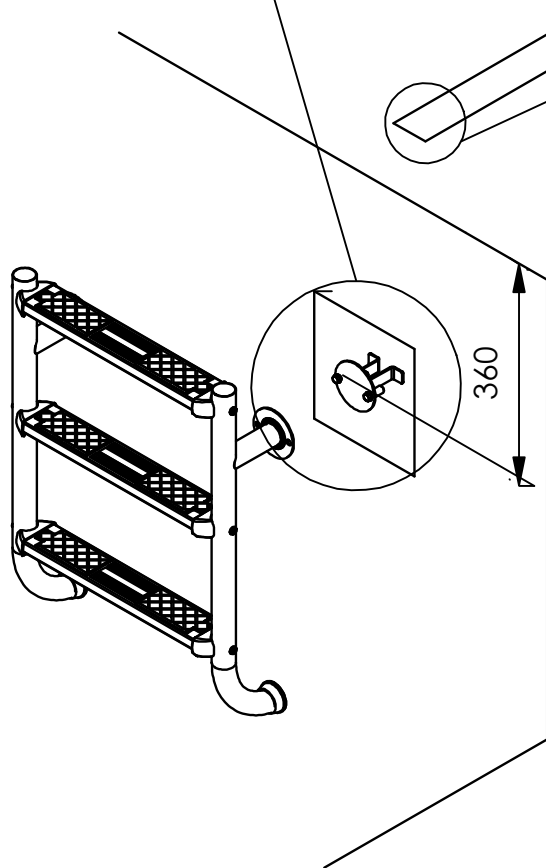

РИС. 03
- 1.- To house the anchor system, make a 200x200x150 mm groove on the wall of the pool to the depth indicated in Fig.03.